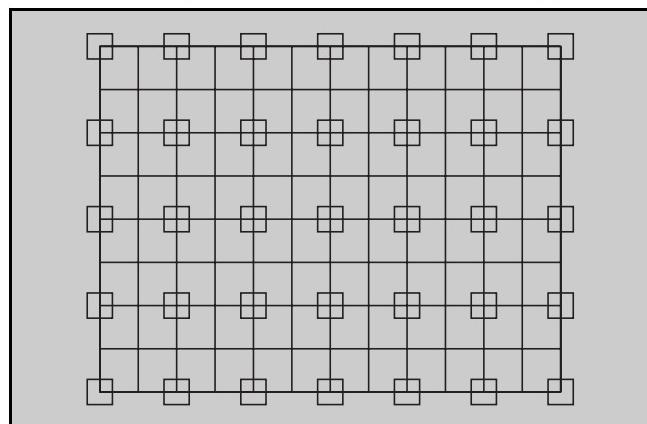

Figure 45. Easy 2 map
18. Adjust green convergence to overlap the cross hatch at adjustment points indicated in Figure 45.
27. Adjust red convergence to overlap the cross hatch at adjustment points indicated in Figure 45.
35. Adjust blue convergence to overlap the cross hatch at adjustment points indicated in Figure 45.